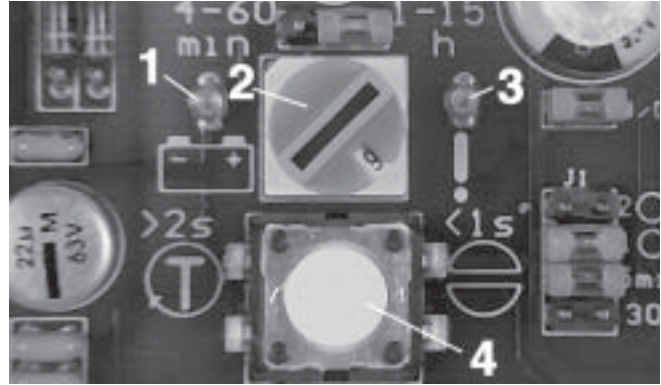

Fig. 14 - LED of the printed circuit board
Note: It is also possible to acknowledge any fault or to trigger an additional lubrication cycle via pushbutton 4 of the printed circuit board (Fig. 14).
- The signal lamp or the LED fig. 14 indicates the operating state of the centralized lubrication system.
- The faults are indicated by different flashing frequencies of the signal lamp or the LED fig. 14. See "Fault Indication".
*Note: It is also possible to acknowledge/reset a fault or trigger an additional lubrication cycle by means of the pushbutton on the printed circuit board (Fig. 14). For this, press it $< 1\text{ second}$ and $> 2\text{ seconds}$. **Condition: The machine contact or driving switch must be switched on.***
- To check whether power is applied to the printed circuit board, observe whether the left-hand LED 1, Fig. 14, is lit.